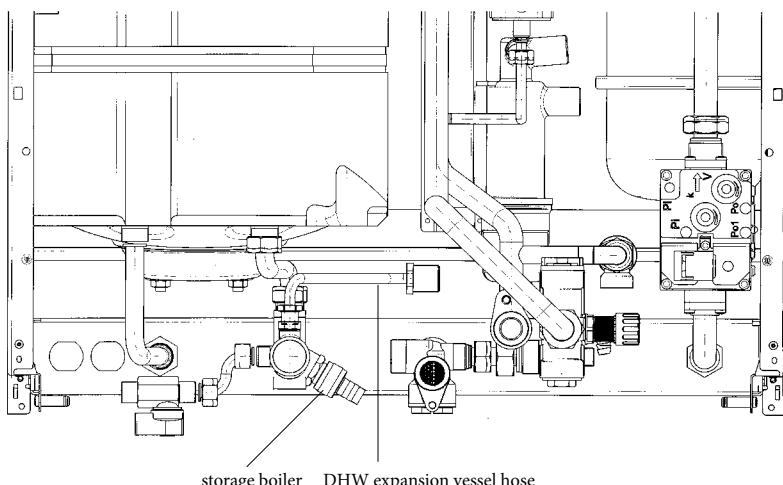

Figure 19
- unscrew the ring nut from the relative drain tap (Fig. 19);